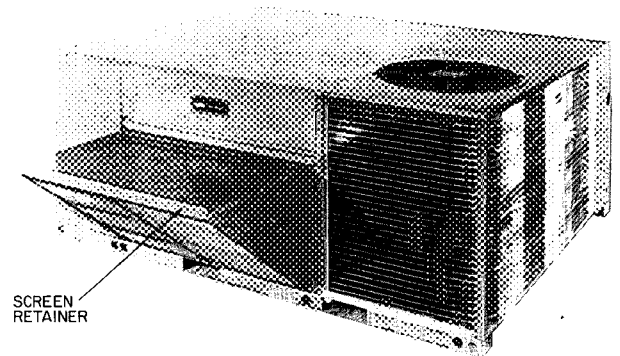

**Fig. 12 — Damper Blade Adjustment
4. Adjust outdoor air damper blade to desired setting for outside air intake by releasing linkage rod setscrew and adjusting linkage rod. See Fig. 12. Secure damper blade in desired position with setscrew.